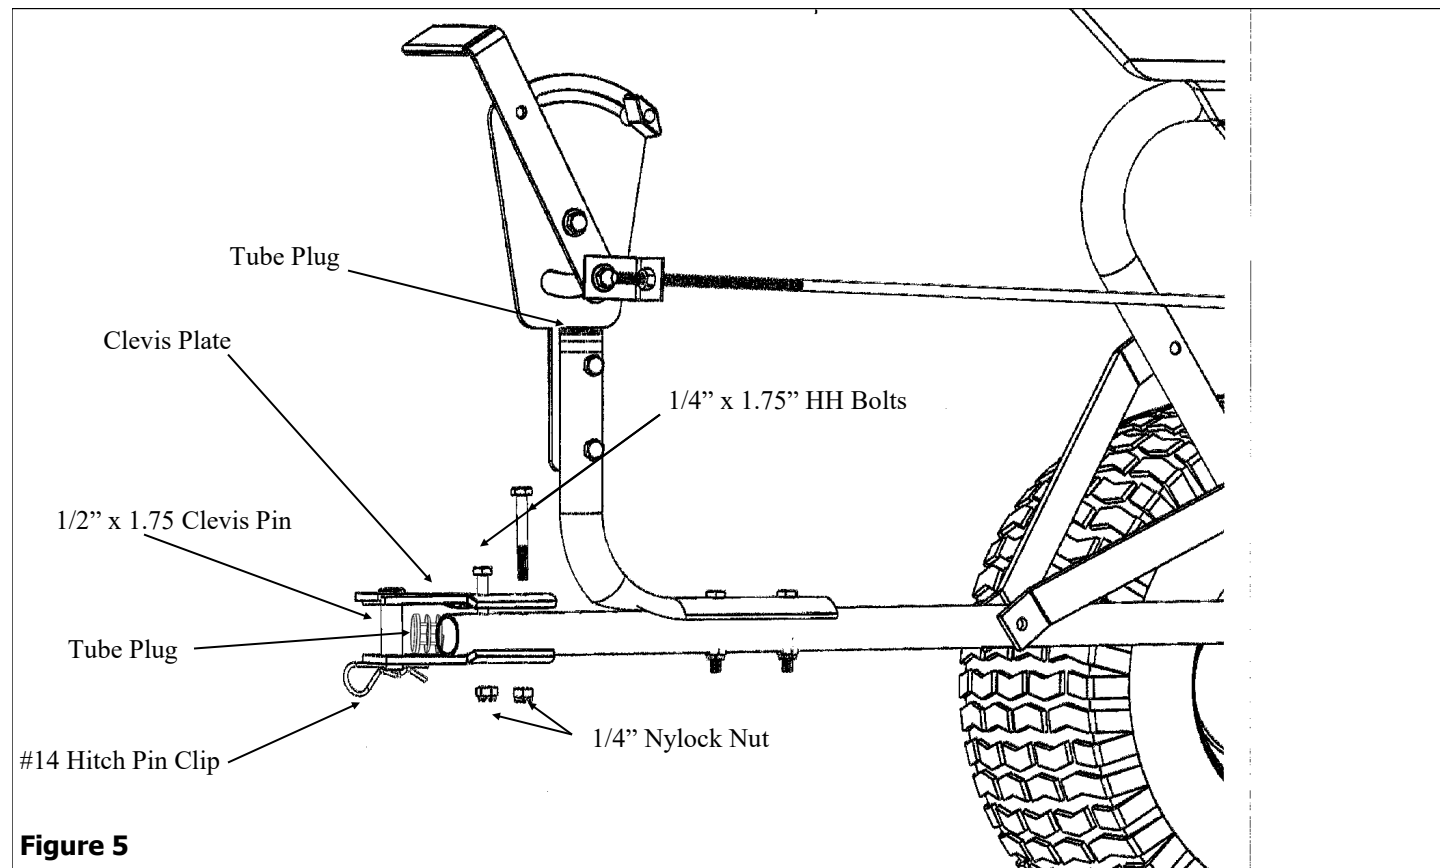

Figure 5
5. Gently tap Tube Plugs into top of T-handle and end of Tow Bar. Attach the two Clevis Plates to the top and bottom of the Tow Bar, using 1/4" x 1-3/4" Hex Head Bolts and 1/4" Nylock Nuts. Insert the 1/2" x 1-3/4" Clevis Pin through holes in Clevis Plates. Secure this with a # 14 Hitch Pin Clip. See Figure 5.